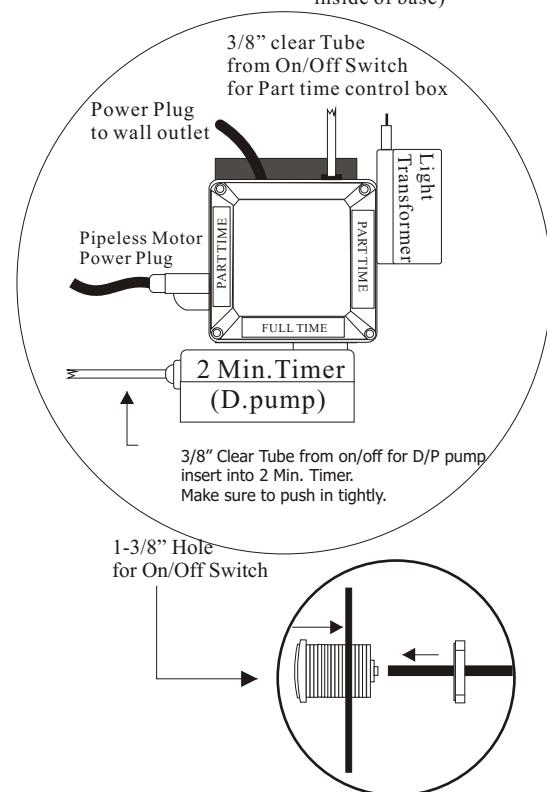

Figure 1
1. Fig.1 shows pivot into the hook - notice all wire/s are clear from hook
1. Make a hole (size 1-3/8") for the On/Off switch as shown (see fig 1). Pre-drill required.